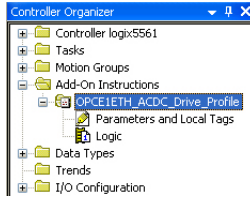

Figure 95: AC/DC Drive Profile AOI
- 2) Right click on “Add-On Instructions” in the controller organizer view and select “Import Add-On Instruction”. Browse and import the AC/DC drive profile AOI. Refer to Figure 95.